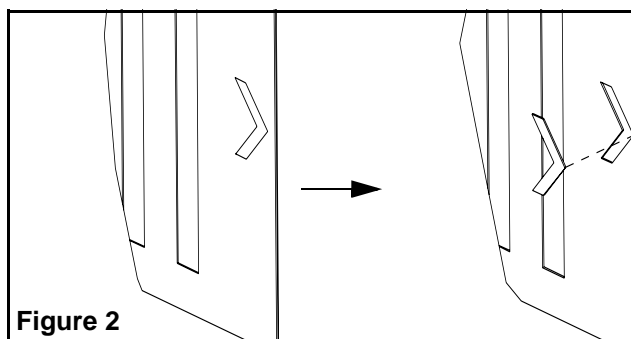

Figure 2
4. Remove the appropriate chevron(s) on the exit sign by supporting the exit face either side of the chevron and knock out carefully with a screwdriver from the rear (See Fig. 2).